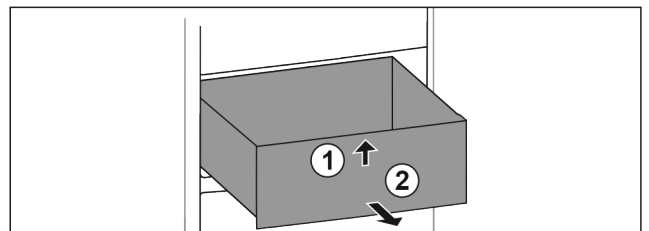

Fig. 62
- Lift up drawer at the front. Fig. 62 (1)
- Remove drawer to the front. Fig. 62 (2)